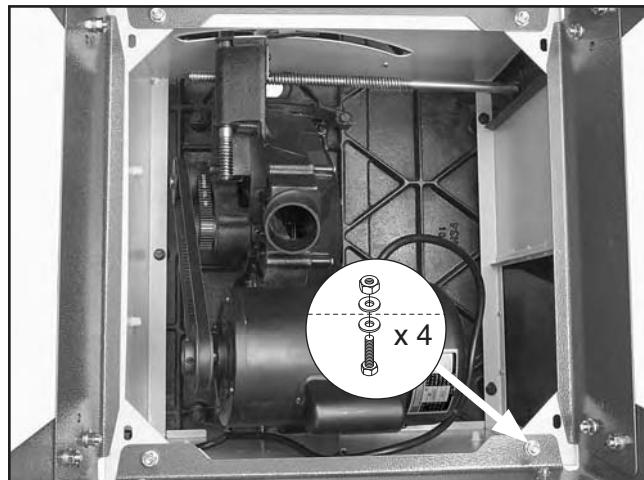

Figure 16. Stand secured to saw body.
8. Secure the stand to the table saw body with (4) M8-1.25 x 20 hex bolts, (8) 8mm flat washers, and (4) M8-1.25 hex nuts, as shown in **Figure 16**.